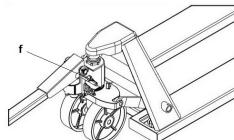

Figure 3
- Lower the handle to the horizontal position and release the spring, removing the pin (f) (Figure 3).